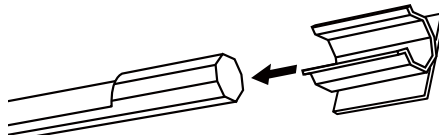

Figure 2.
- Determine the best location for the UV lamp brackets and clean the area. Slide the mounting brackets onto the ends of UV lamps. (Figure 2.)